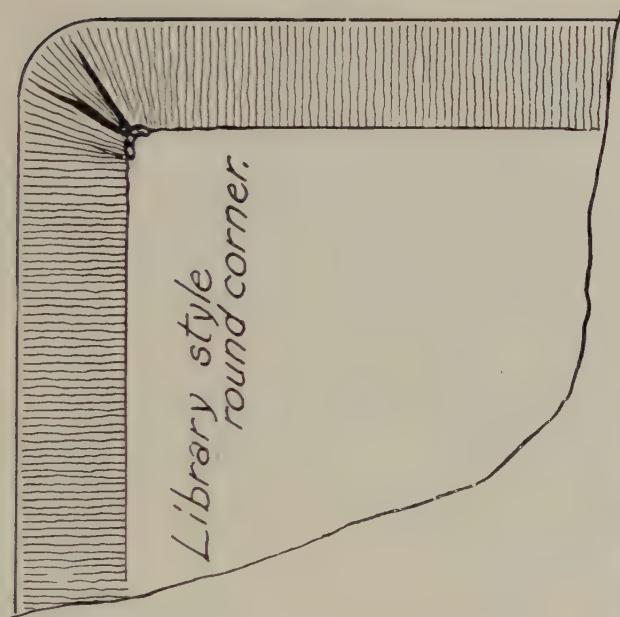

FIG. 92—LIBRARY STYLE OF ROUND CORNER—NOTE LAPS INSTEAD OF "PICKED-IN" CORNER
13. Next try a library style round corner, cutting your material in same way but having only three "laps" in corner. (See Fig. 92, Page 207.)